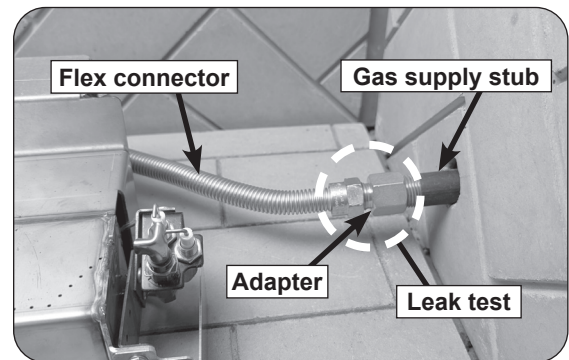

Fig. 20-2 Connect gas supply
2. Locate the gas-supply stub inside the fireplace and remove the cap, if attached (reference Fig. 20-2).
4. **Be sure gas to the fireplace is off.** Remove the adapter connected to the flex connector (pre-installed on the burner system). Attach the adapter to the gas-supply stub using a pipe compound resistant to all gasses. Tighten securely. Then attach the open end of the flex connector to the adapter. Tighten securely (see Fig. 20-2). Ensure the burner rests level on the fireplace floor after connection. Adjust the burner system if necessary.
5. **LEAK TEST:** Make sure the burner valve is in the OFF position. Turn on the fireplace gas supply, and test at all connections for leaks using the appropriate soapy water solution. See Fig. 20-2. If bubbles appear, a leak is present. Turn off the gas and tighten at all connections. Repeat until no leaks are present. If a leak persists, turn off the gas supply and contact the local gas company or dealer. **NEVER USE A FLAME TO CHECK FOR LEAKS.**